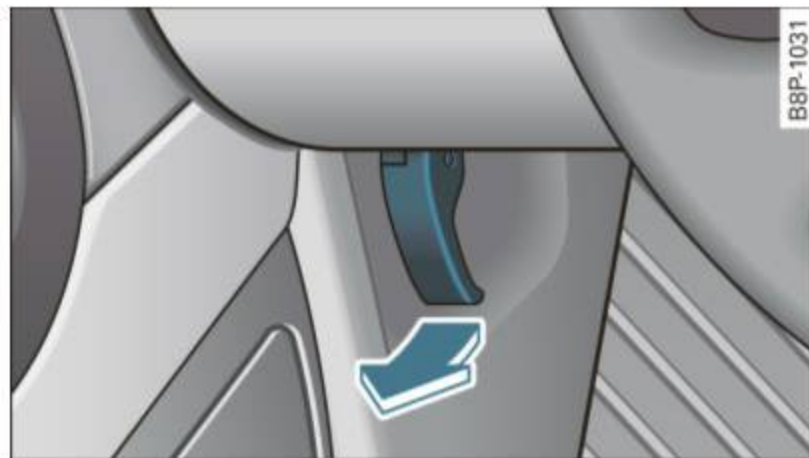

Fig. 159 Driver's side footwell: engine hood release lever
- Pull the release lever on the left under the instrument panel ⇒ fig. 159 in direction of the arrow.